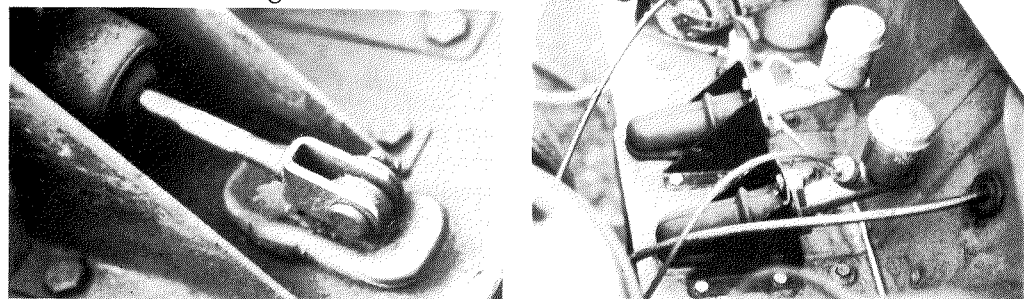

FIG. 22 - Master cylinder rubbers - early type on left, later type on right
**Master Cylinders:** Fitted with small rubber dust seals on 1959 cars; later larger rubber 'boots' fixed onto bulkhead (Fig. 22).